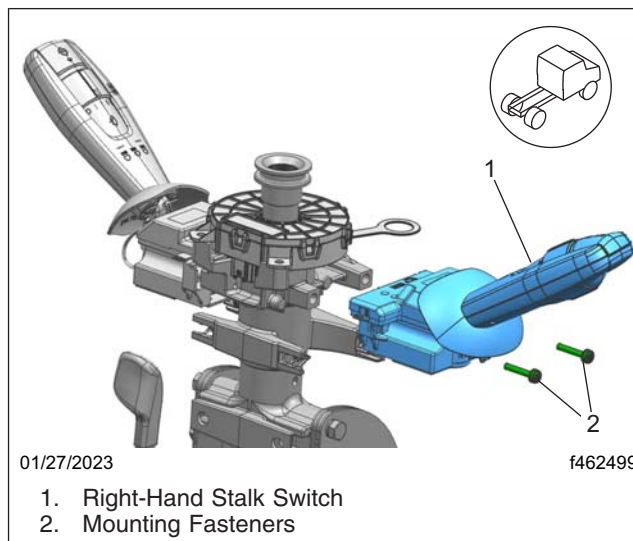

Fig. 3, New Shifter Installation
- 8. Remove the two fasteners that hold the shifter stalk switch in place. See Fig. 3.